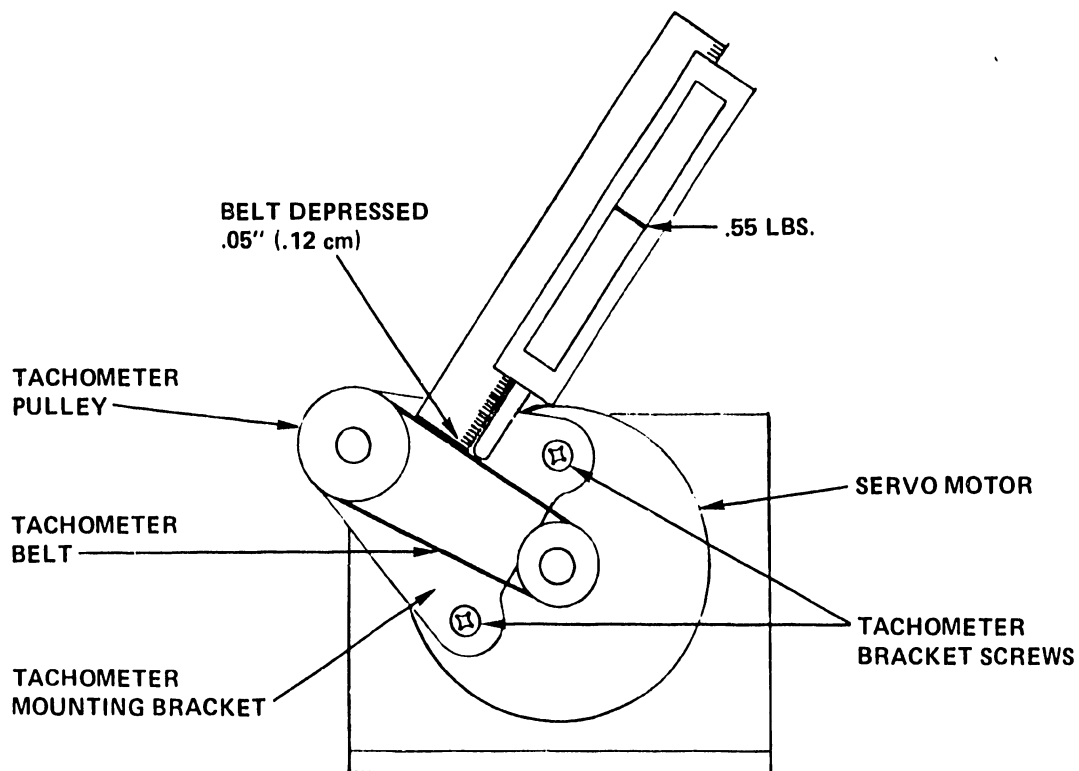

Figure 5-44. Tachometer Belt Adjustment
1. Tachometer Belt - Loosen the two Phillips screws holding the tachometer bracket to the servo motor, and move the tachometer to obtain the correct belt tension. Tighten the screws and recheck the tension. See Figure 5-44.